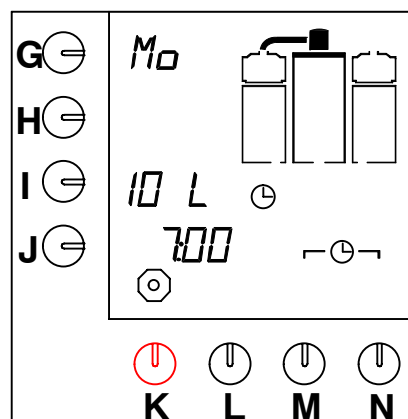

Fig. 15 Waiting mode timer
- An enter symbol appears ↵ on the display. The clock in the display starts flashing and the system will make coffee at the set time. The waiting mode appears on the display (fig.15 ).
- The clock in the display starts flashing and the system will make coffee at the set time. The waiting mode appears on the display (fig.15 ).